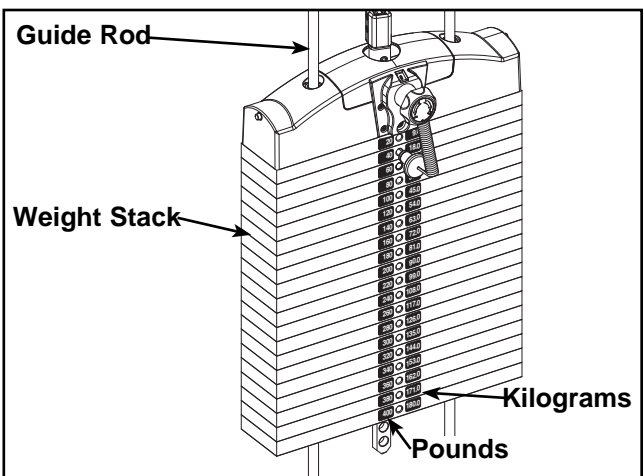

Figure 18
- Carefully remove front side, leaving decals adhering to weight plates. See Figure 18.